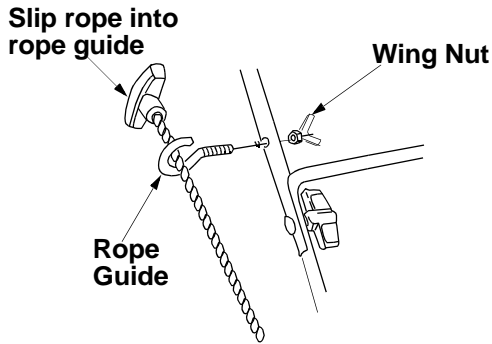

Figure 4
- The rope guide is attached to the right side of the upper handle. Loosen the wing nut which secures the rope guide. For location of the wing nut, see Figure 4.
- With the spark plug wire disconnected and grounded, and with the safety key in the locked position, pull the starter rope out of the engine. Slip the starter rope into the rope guide. Tighten the wing nut. See Figure 4.